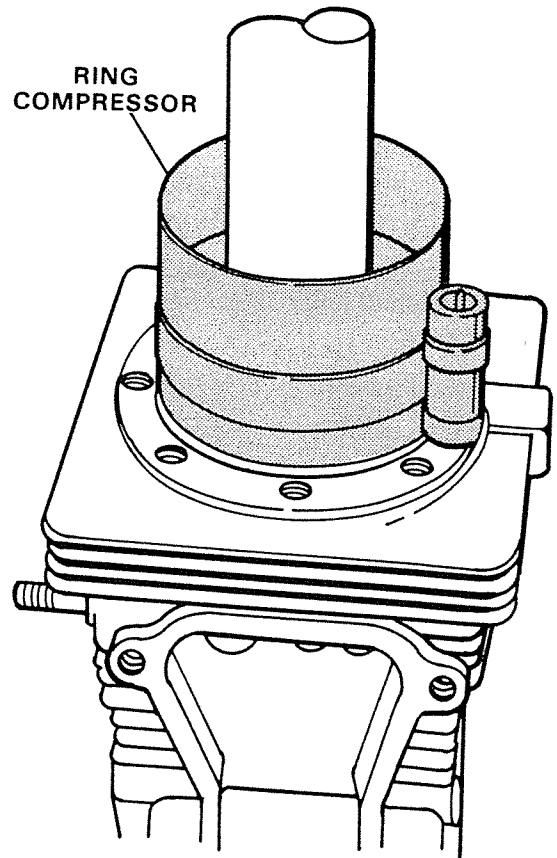

Figure 27. Installing Rod and Piston in Cylinder.
- 6. Insert rod and piston skirt into top of cylinder and guide piston into cylinder using ring compressor, Special Tool No. T 2997 or fingers. Figure 27.